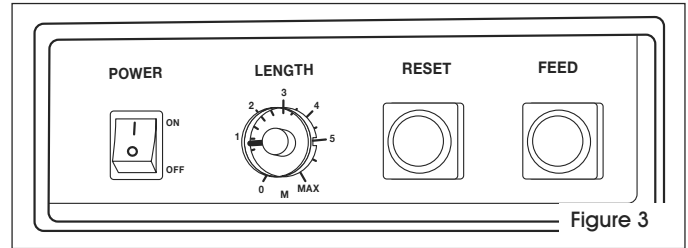

Figure 3
1. Set strap feed length: Determine the length of strap needed. Set control for 0-6. Lengths listed in meters. 1 = 3 ft. of strap. Example: for 6 ft. of strapping, set the control at "2". (See Figure 3)
2. Turn power ON. Allow machine to heat up 3-4 minutes. Strap won't seal if heating blade is not hot enough. (See Figure 3)
3. Pre-feed the strap: Press and hold the FEED button until the desired length of strap feeds out. (See Figure 3)
<p>Strap jams while cutting and sealing.</p>	<p>Check if strap can be pulled out of the right side door. (See Figure 1)</p> <ol style="list-style-type: none"> <li>1. Turn power OFF and open top cover. Check if strap is jammed between press bar and front bar. (See Figure 2)</li> <li>2. If strap is jammed between press bar and front bar:               <ol style="list-style-type: none"> <li>a. Slide LS1 plate towards rear of machine until the plate and separator come off.</li> <li>b. Lift heater off the two screws.</li> <li>c. Lift springs from press bar, front bar and rear bar post. Lift out bars.</li> <li>d. Wipe down bars and square holes.</li> <li>e. Lubricate bars with light lubrication, such as WD-40®, and reinsert bars.</li> <li>f. Reattach springs to post. Put heater, LS1 plate and separator back on, ensuring LS1 arm is put in separator slot.</li> <li>g. Ensure the groove on the bottom right side of the LS1 plate is positioned so the tip of the front bar goes into the groove when it is raised up. (See Figure 3)</li> </ol> </li> </ol>